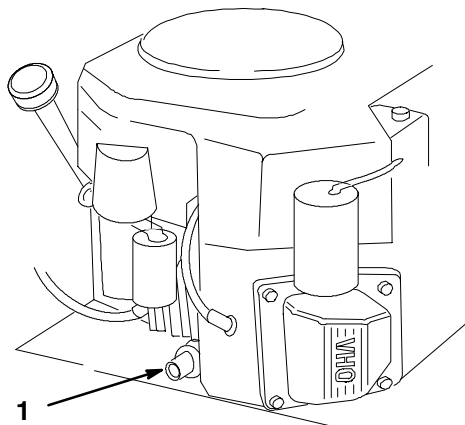

Figure 21
5. Place a pan below the oil drain. Open the drain by turning counterclockwise, 1/8 turn and pull out (Fig. 21).